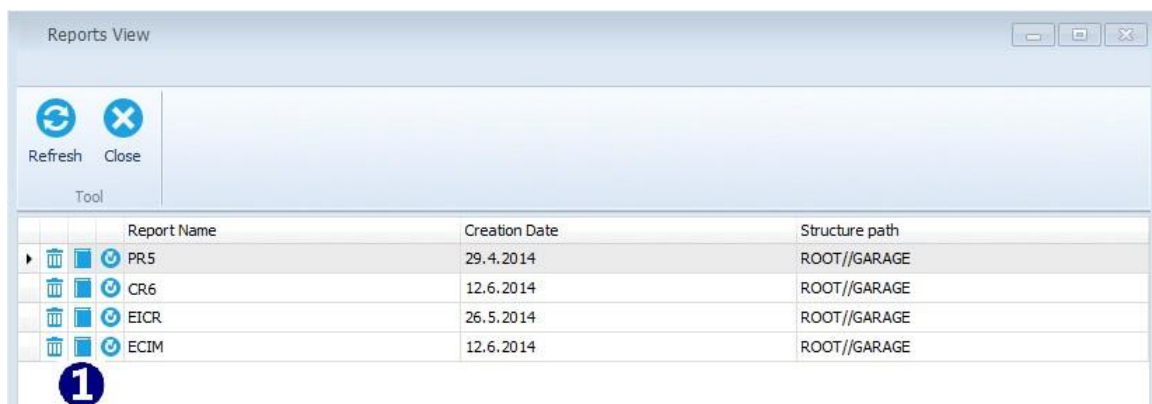

Figure 11.1: Manage reports window
• **Manage** : Click on icon opens list of existing reports (**Figure 11.1**) for managing. Each report can be opened for editing, deleted or re-created (●):